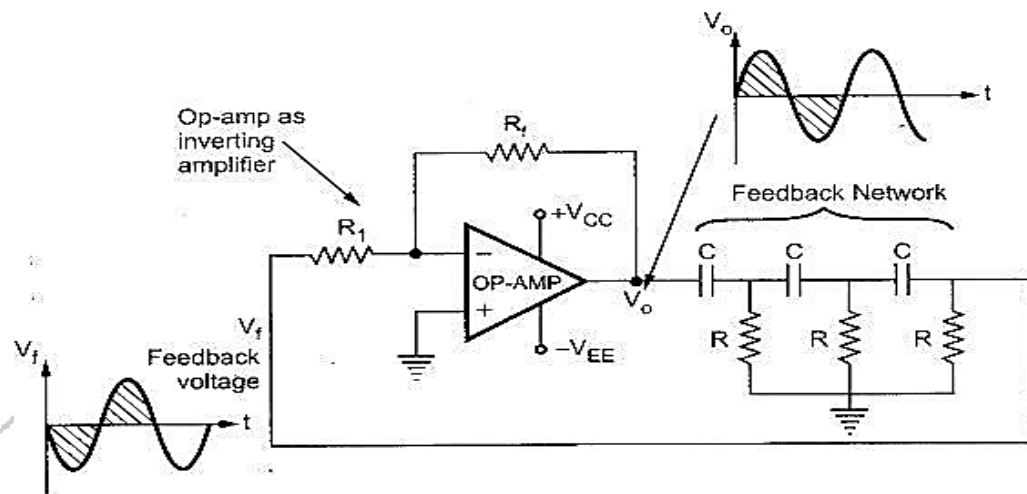

Fig. 16.1: Circuit diagram of RC phase shift oscillator
2. Connect the circuit as per the circuit diagram as shown in figure 16.1.